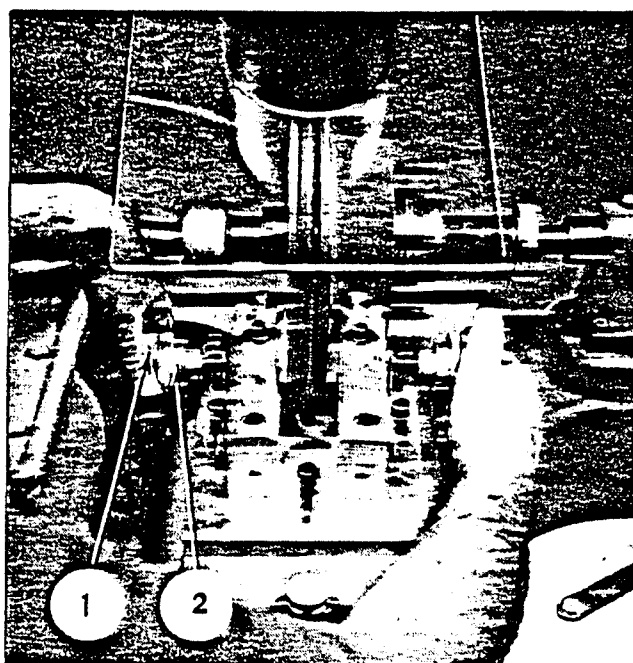

Figure 18. Micro Knob Adjustment
3. Turn both micro knobs until tool bits just barely touch the rotor surfaces, Figure 18.